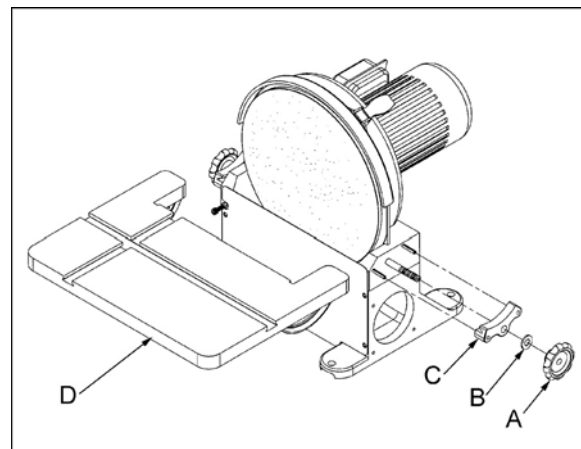

Figure 2
3. Unscrew the knob (A, Figure 2), remove the washer (B, Figure 2) and the trunnion holder (C, Figure 2). Repeat for opposite side.
4. Lift the table (D, Figure 2) into position and set on top of the split pins and threaded shaft.